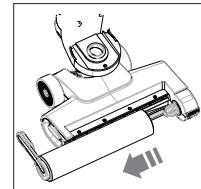

Fig. 13 – Removing the microfibre roller
- ▶ Pull the locking tab on the microfibre roller to the left and remove the microfibre roller (**see Fig. 13**).